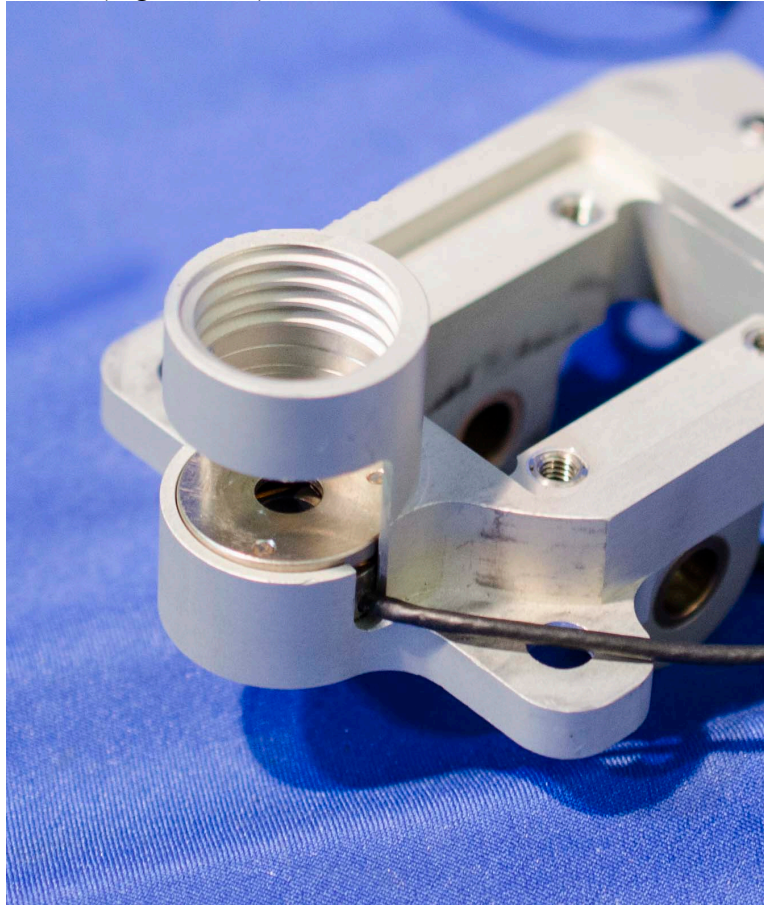

Figure 4-29. Insert skull spring load cells into neck mounting plate
4.2.2.18 Install the 0.850 diameter Skull Spring Load Cells (SA572-S112) into the Head/Neck Mounting Platform (472-2210) at the base of the front and rear spring towers (Figure 4-29).